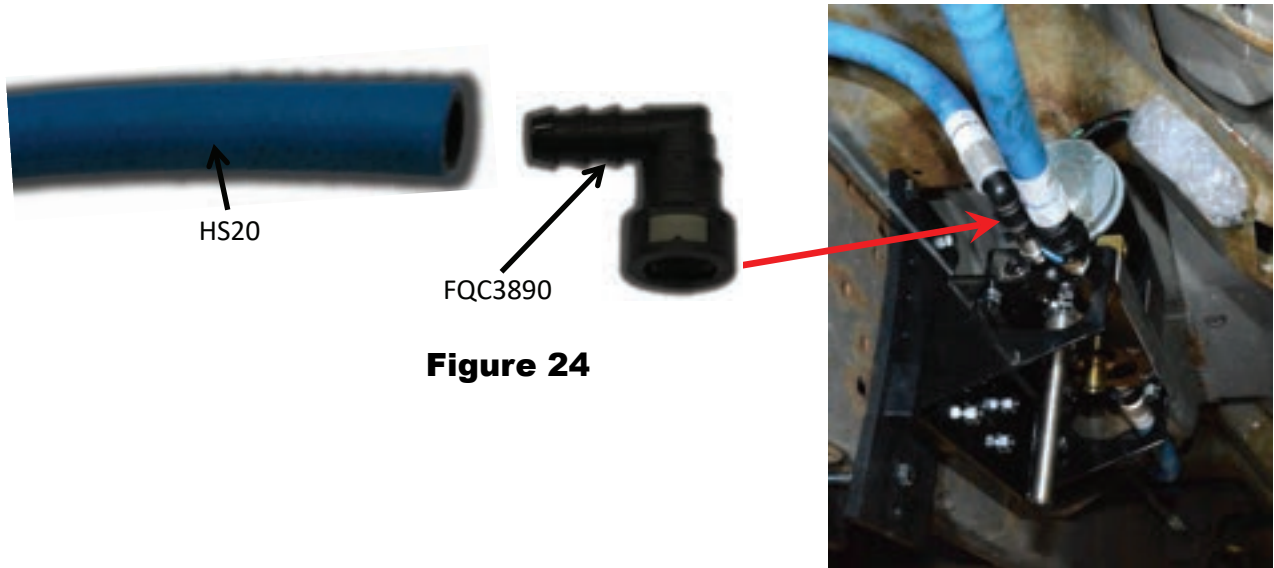

Figure 24
- 6-4. Assemble one end of the return line (Reference section 4) using Fuel line end FQC3890 and plug it into the “Return” J2044 fitting installed in the AirDog® (Figure 24). A “click” will be heard once the fitting is properly connected.